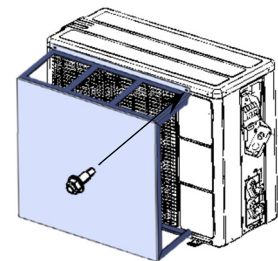

Figure 3
(2) Using the self-tapping screw provided, secure the wind baffle upper right corner as shown in Figure 3.